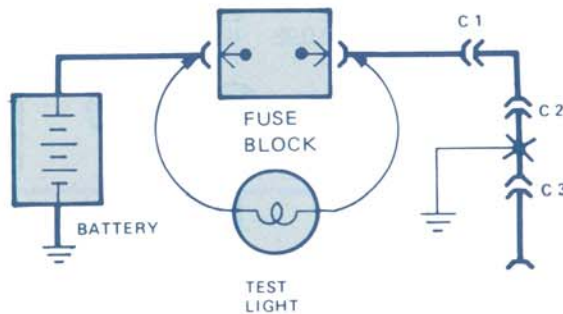

Figure 4 — Short Check
- b) Test light ON: short is in wiring. Find short by disconnecting circuit connectors one at a time. In the example (Figure 4) with a ground at X, the light goes out when C1 or C2 is disconnected, but stays on after disconnecting C3. This means the ground is between C2 and C3.